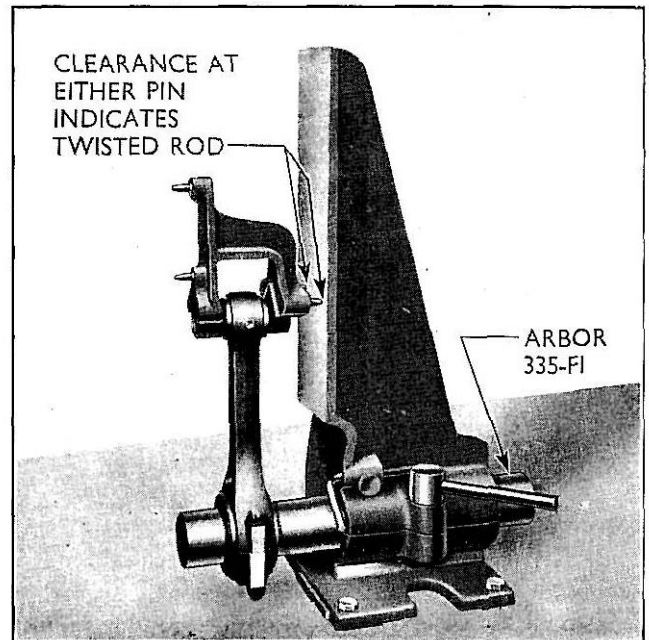

Fig. 26
Connecting rod alignment can be checked by using the connecting rod alignment jig, tool No. 335 and arbor No. 335-F1. This indicates bent or twisted connecting rods, see Figs. 26 and 27. The method of testing is described below.
- 2 Bolt the connecting rod, without bearing liners, to the arbor and with the gauge mounted on the piston pin with the two horizontal pins towards the jig, move the arbor along until the pins touch the machined surface. Clamp the arbor in this position. Clearance between the face of the jig and one of the pins, indicates a twist in the connecting rod (see Fig. 26).